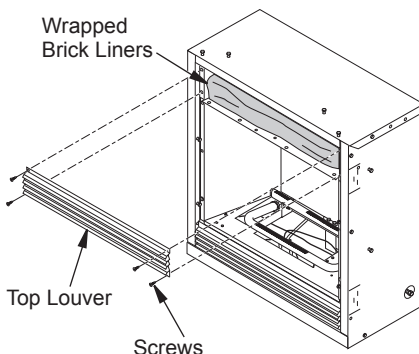

Figure 2 - Removing Brick Liners From CDCFNR/PR
1. Remove screws from top louver and carefully remove louver (see Figure 2).